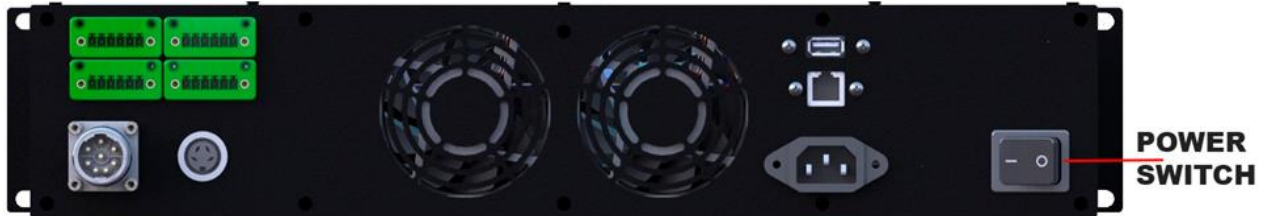

Figure 3-1: The back panel of the control box
- Flip the power switch (see **Figure 3-1**) on the back panel of the control box to the ON position.